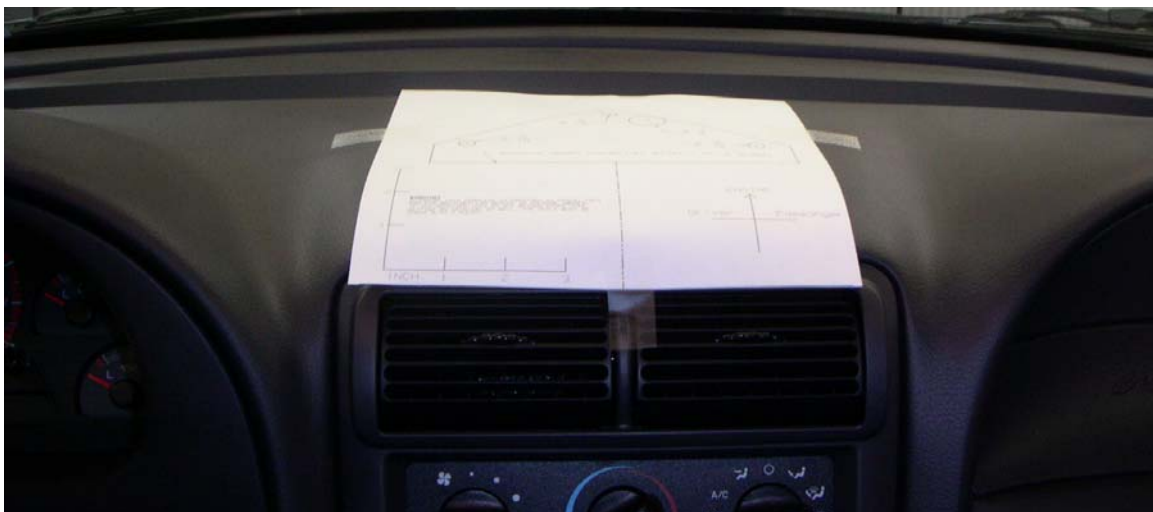

FIGURE 1.
- 2) Place the supplied template on the top center of the dash. See Figure 1.